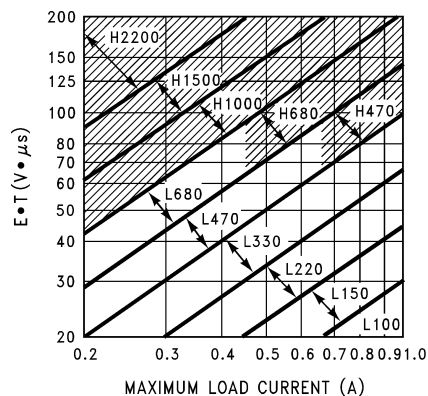

Figure 19. TL2575-ADJ
2. Inductor Selection (L1) A. Calculate the "set" volts-second (E•T) across L1: $E \bullet T = (V_{IN} - V_{OUT}) \times t_{on}$ $E \bullet T = (V_{IN} - V_{OUT}) \times (V_{OUT}/V_{IN}) \times \{1000/f_{osc}(\text{in kHz})\} [\text{V} \bullet \mu\text{s}]$ NOTE: Along with I_{LOAD}, the "set" volts-second (E•T) constant establishes the minimum energy storage requirement for the inductor. B. Using Figure 19, select the appropriate inductor code based on the intersection of E•T value and $I_{LOAD(Max)}$. C. From Table 2, choose the appropriate inductor based on the inductor code. Parts from three well-known inductor manufacturers are given. The inductor chosen should be rated for operation at 52-kHz and have a current rating of at least $1.15 \times I_{LOAD(Max)}$ to allow for the ripple current. The actual peak current in L1 (in normal operation) can be calculated as follows: $I_{L1(pk)} = I_{LOAD(Max)} + (V_{IN} - V_{OUT}) \times t_{on}/2L1$ Where $t_{on} = V_{OUT}/V_{IN} \times (1/f_{osc})$	2. Inductor Selection (L1) A. Calculate the "set" volts-second (E•T) across L1: $E \bullet T = (25 - 10) \times (10/25) \times (1000/52) [\text{V} \bullet \mu\text{s}]$ $E \bullet T = 115 \text{ V} \bullet \mu\text{s}$ B. Using Figure 19, the intersection of 115 V•μs and 1 A corresponds to an inductor code of H470. C. H470 $\rightarrow$ L1 = 470 μF Choose from: 34048 (Schott) PE-53118 (Pulse Engineering) RL1961 (Renco)